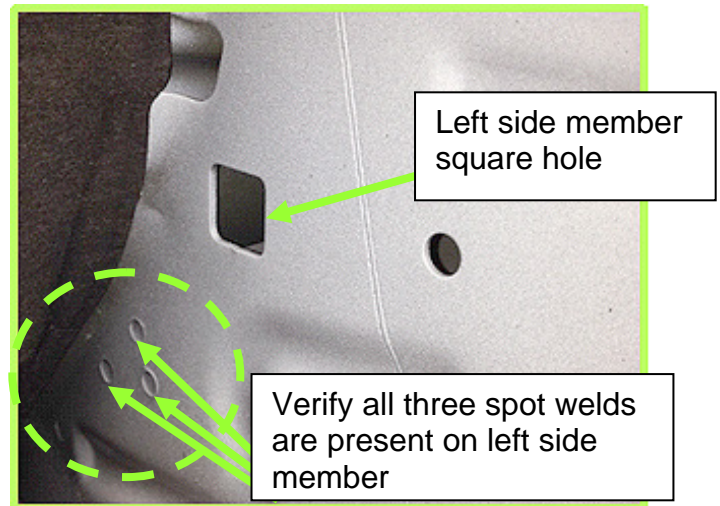

Figure 4
- Using a light, verify there are **three** spot welds at the “7 O’clock” position of the square hole (See Figure 4).